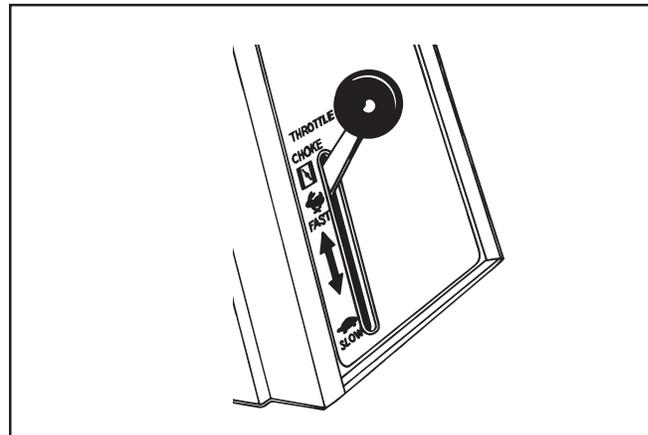

**Figure 5-15. Aligning Holes in Speed Control Bracket and Throttle Lever.**
- Align the hole in the throttle lever with the hole in the speed control bracket by inserting a pencil or 6.35 mm (1/4 in.) drill bit. See Figure 5-15.
3. Align the hole in the throttle lever with the hole in the speed control bracket by inserting a pencil or 6.35 mm (1/4 in.) drill bit. See Figure 5-15.